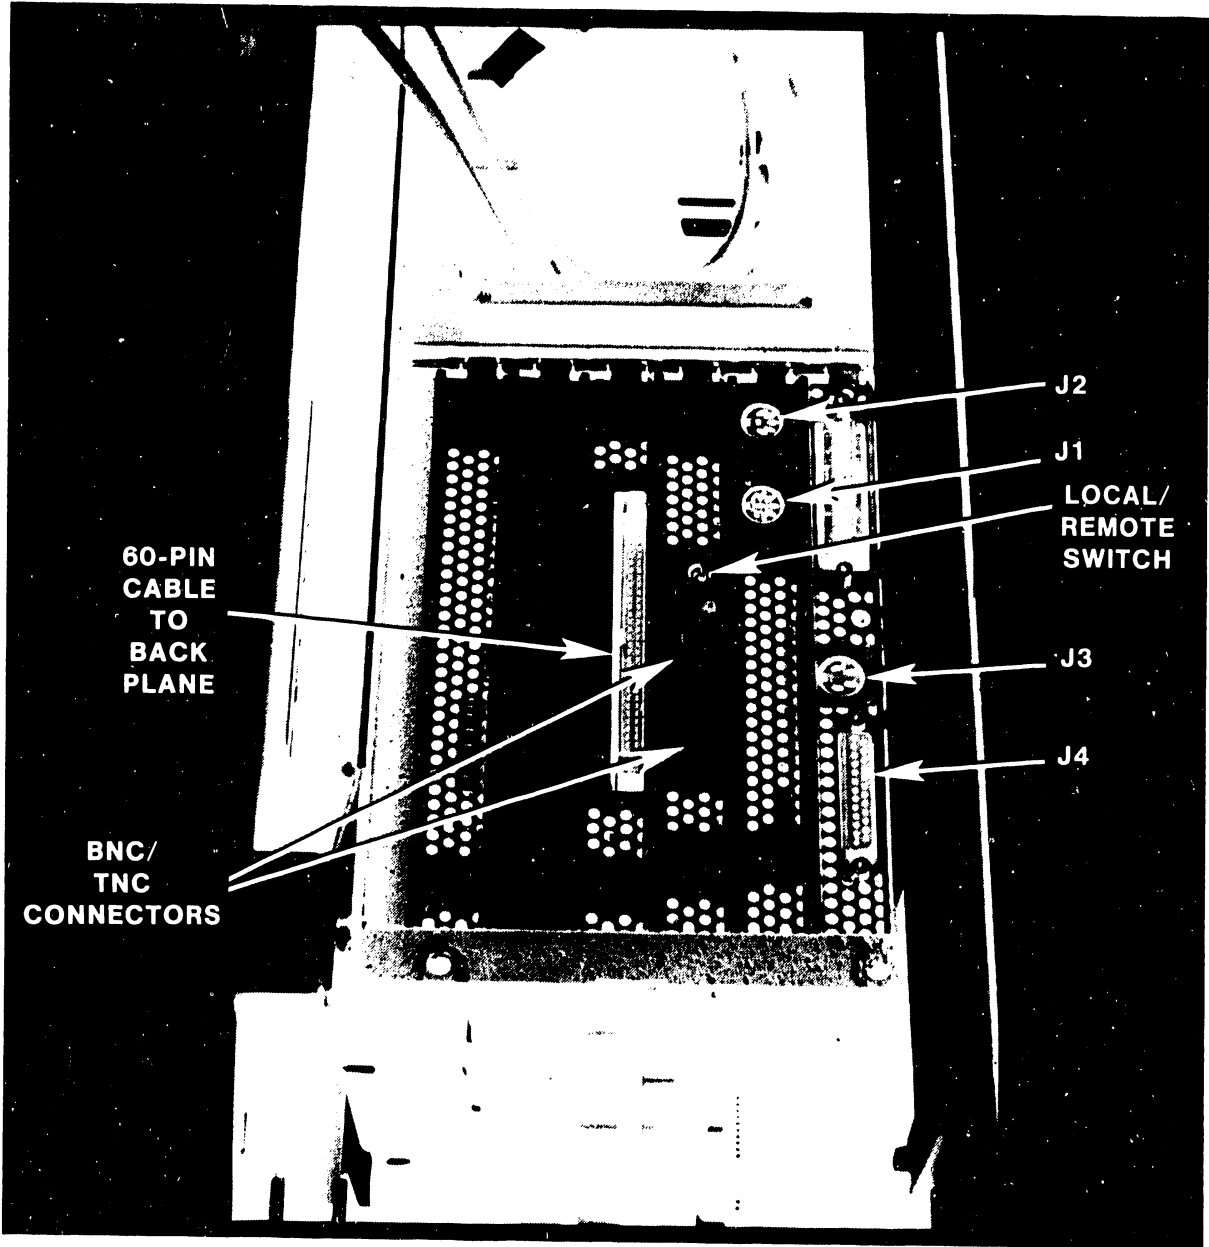

Figure 7-43. SCU PC Removal and Replacement
7.2.14 SCU PROFESSIONAL COMPUTER (PC) REMOVAL
The SCU (PC) is mounted internally at the right side of the mainframe behind the front door. SCU PCBs can be removed individually. The mainframe front door is opened for SCU PCB access and the mainframe top cover is removed for SCU cable access. However, if it is necessary to remove the entire SCU chassis, proceed as follows: (Figures 7-43 and 7-44.)